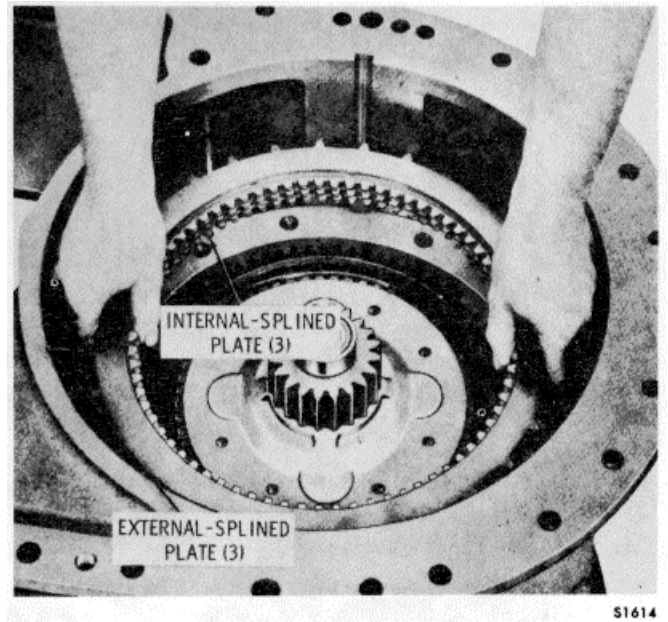

Figure 15-75. Removing Third-and-Fourth-Gear Clutch Plates.
9. Remove third-and-fourth-gear clutch plates (Figure 15-75).